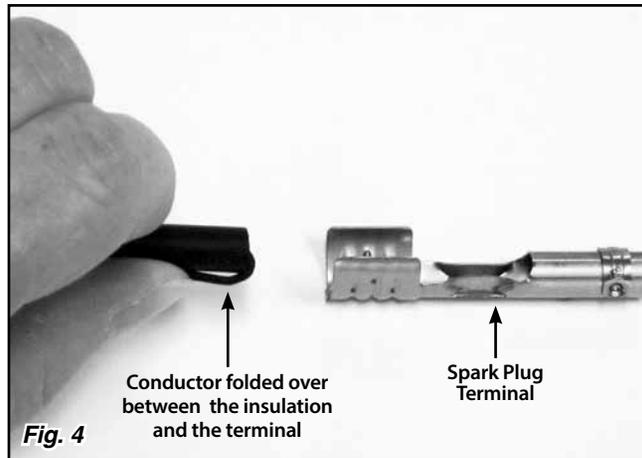
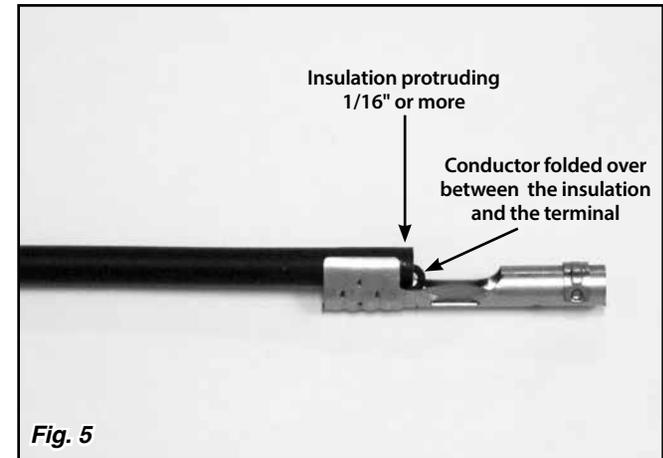

Fig. 4
Fig. 5
Step 8: Fold the conductor over against the outside of the insulation. **Fig. 4** Position a spark plug terminal on the end of the plug wire, with the conductor on the bottom in between the insulation and the back of the spark plug terminal. Make sure that the terminal is positioned so that at least 1/16" or a little more of the insulation is protruding beyond the edge of the tabs on the spark plug terminal. **Fig. 5**
Step 9: Before you start to crimp the spark plug terminal, use a pair of pliers to squeeze the spark plug terminal tabs together enough to keep the terminal from falling off of the plug wire, and so that the tabs will fit into the notches on the spark plug wire crimper. **Fig. 5**